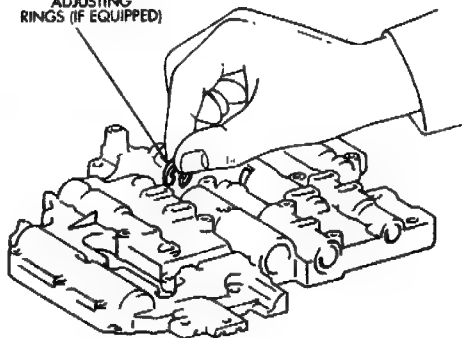

**Fig. 15 Valve Retainer And Stop Locations**
(1) Lubricate the valves, springs, plugs, sleeves and the valve bores in the upper body with automatic transmission fluid.
(2) Note position of the valve retainers (A) and stop (B) for assembly reference (Fig. 15).